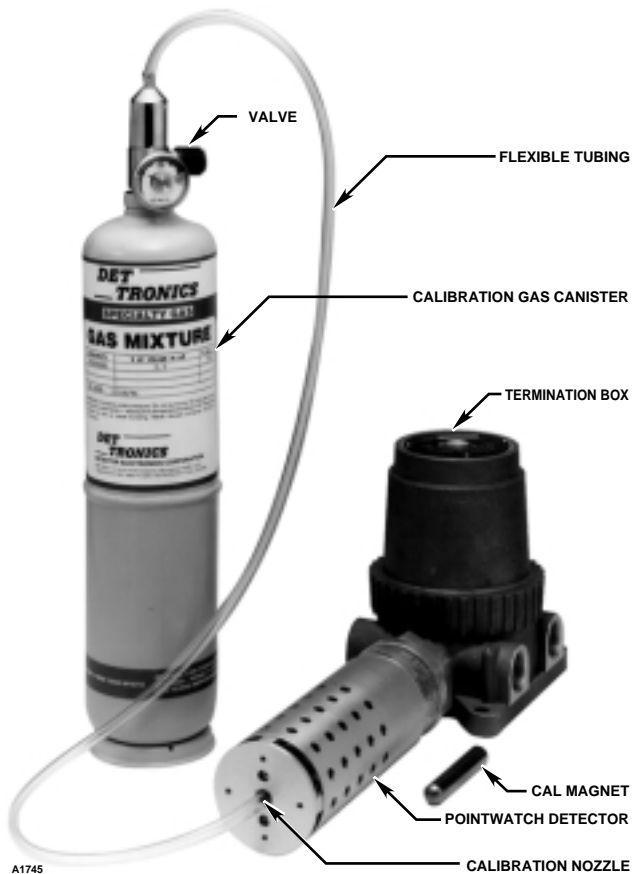
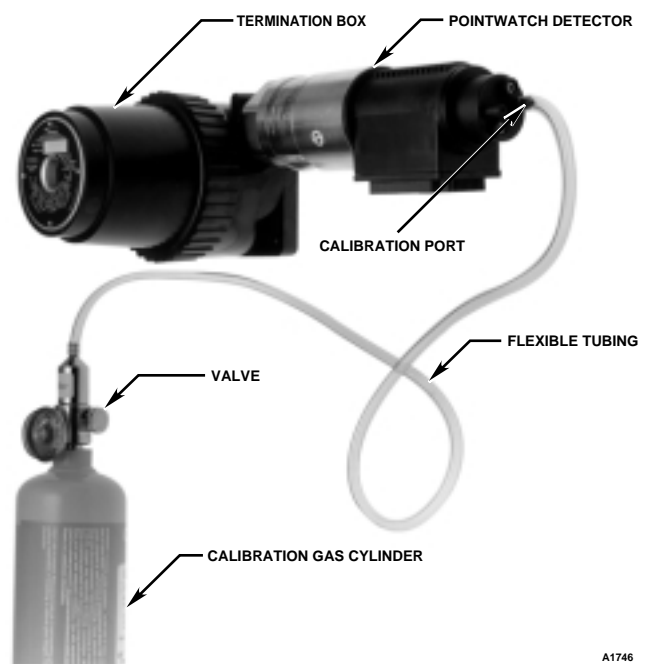

Figure 22—Aluminum PointWatch Detector Calibration Configuration
Figure 23—Stainless Steel PointWatch Detector Calibration Configuration
5. Connect the calibration gas canister, valve and tubing to the direct input nozzle as shown in either Figure 22 (aluminum model) or Figure 23 (stainless steel model) or to the windshield nozzle, depending on the method used.
6. Apply 50% LFL calibration gas to the detector. This is accomplished by opening the valve on the calibration gas canister (see Figure 22 or Figure 23). A 2.5 liter per minute flow rate is recommended.
4. Connect the calibration gas canister, valve and tubing to the direct input nozzle as shown in either Figure 22 (aluminum model) or Figure 23 (stainless steel model) or to the windshield nozzle, depending on the method used.
5. Apply 50% LFL calibration gas to the detector. This is accomplished by opening the valve on the calibration gas canister (see Figure 22 or Figure 23). A 2.5 liter per minute flow rate is recommended.